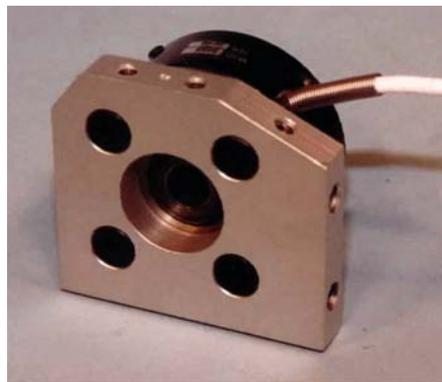

Figure 11.7- Orientation of Load Cell on Plate
5. Attach the Right Load Cell Mounting Plate (T1PM211) to the Right Acetabulum Load Cell (T1INM341) using four 1/4"-20 x 5/8" FHSCS-NP {5/32}. Orient the load cell wiring to the mounting plate as shown in **Figure 11.7**.